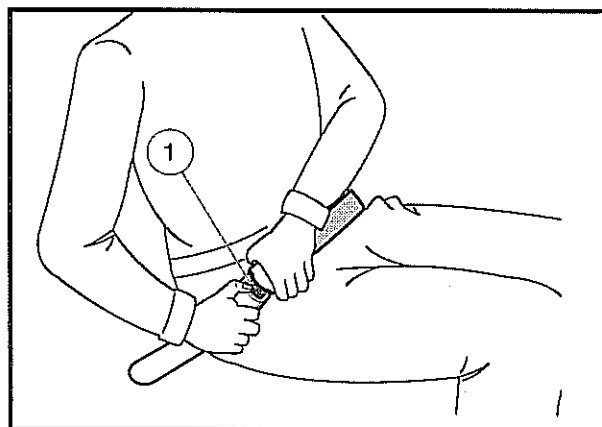

Figure 9 Release Safety Belt
To release the safety belt, press the buckle release button (1) and allow the belt to retract. If the belt does not retract smoothly, pull it out and check for kinks or twists. Then make sure it remains free of twists as it retracts (Figure 9, Page 18).